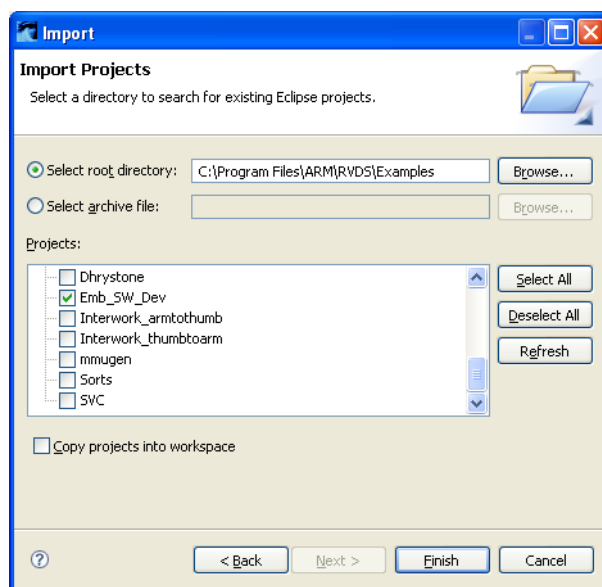

Figure 3-9 Selecting an existing Eclipse projects for import
3. Click on **Browse** to select the project root folder. Ensure that the Projects panel has all the required import project(s) selected. Select **Copy projects into workspace** if required or deselect to create links to your existing project(s) and associated files. See Figure 3-9 on page 3-9. Click on **Finish**.